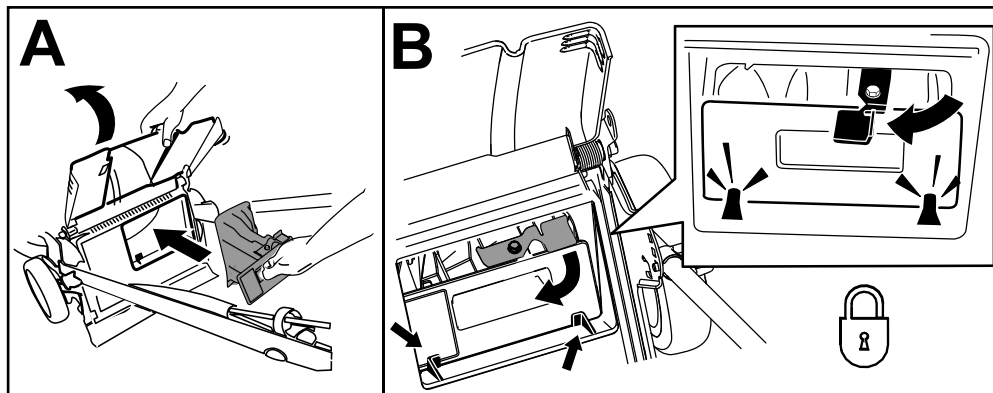

Figure 15
**Important:** Ensure that the rear plug is locked in place. To lock the plug, raise the rear deflector (A of Figure 15), firmly push the plug in until it snaps into place behind the tabs, and rotate the lever on the plug to the left (B of Figure 15).